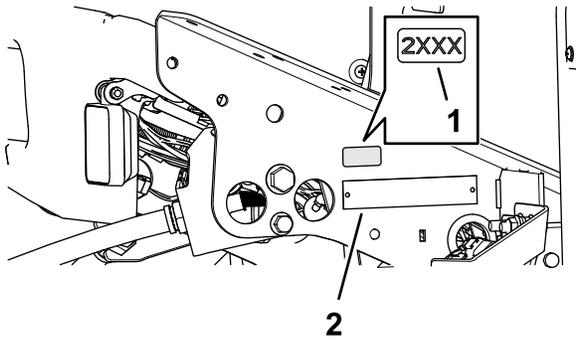

Figure 39
1. Use rubbing alcohol and a clean rag to clean the floor bracket area next to the serial plate, and allow the bracket to dry (Figure 39).